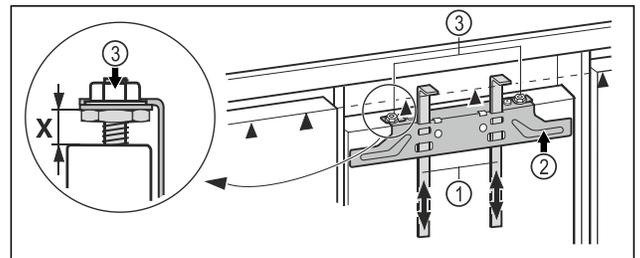

Fig. 41
- ▶ Push the assembly aids Fig. 41 (1) up to the height of the unit door. Lower stop edge ▲ of the assembly aid = upper edge of the cabinet door to be mounted.
- ▶ Unscrew the fastening crossbeam Fig. 41 (2) using the lock nuts Fig. 41 (3).